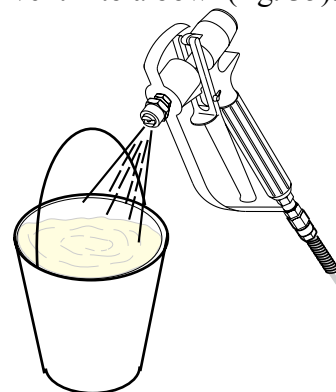

Fig.35
5) Using the gun discharge any residue of the product and the solvent into a bowl (fig. 35).